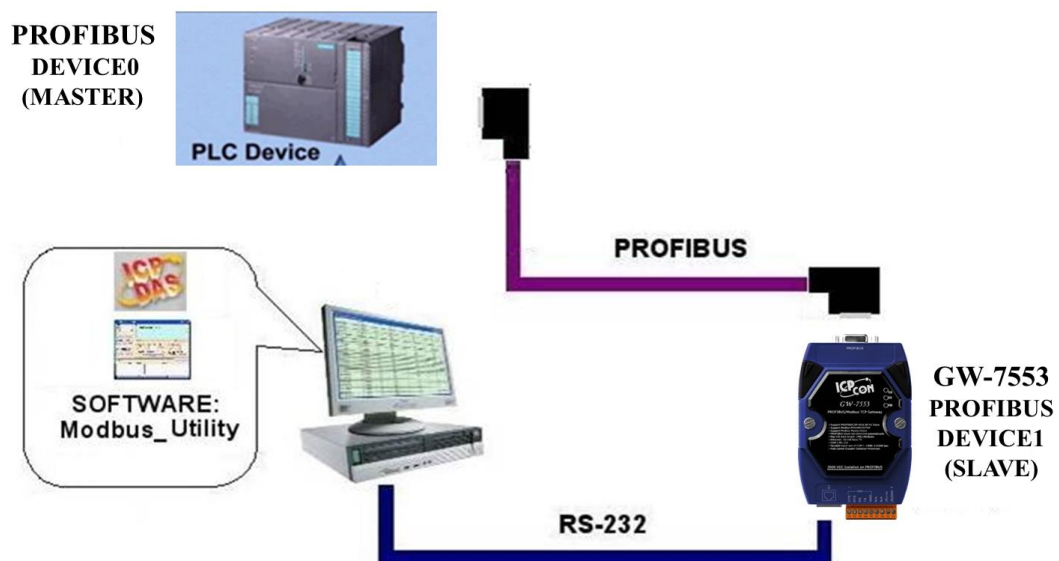

Figure 34 Wiring diagram between PC and GW-7553-B
- Step 2: Connect the RS-232 port of the GW-7553-B module to a COM port of the PC and the PROFIBUS port to a PROFIBUS Master (*Figure 34*).